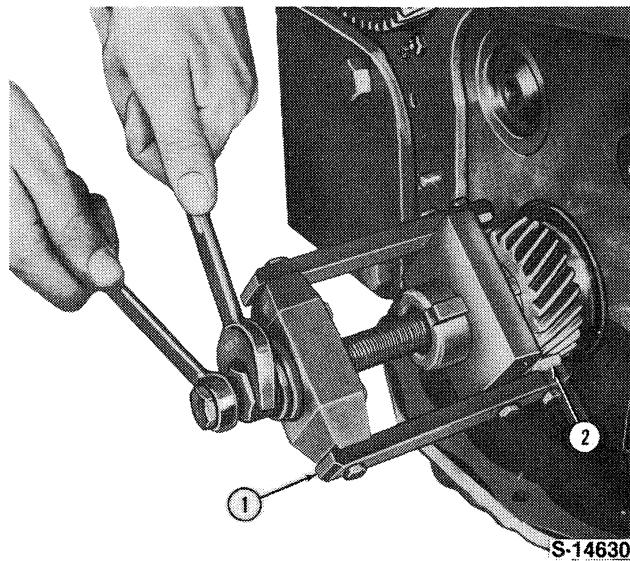

Figure 30
2. Install the crankshaft, then use Tools No. 2134 and 1237 to install the crankshaft gear, Figure 30.